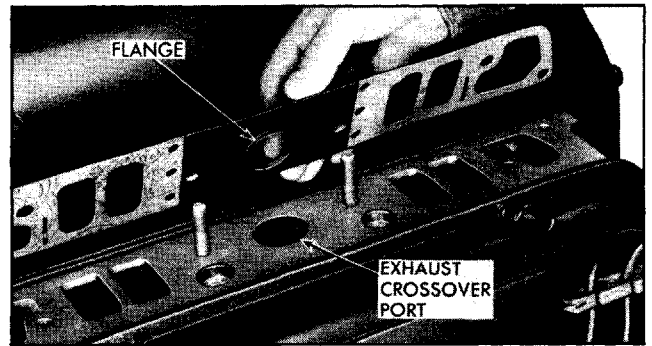

Fig. 6-16 Installing Intake Manifold Gasket
1. Install new gasket on each cylinder head so that flange of metal center section of gasket fits into exhaust crossover port of head (Fig. 6-16).